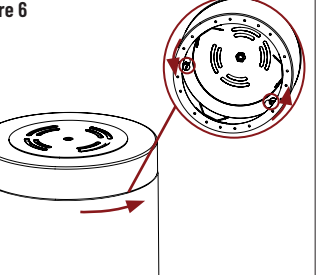

Figure 7
7. Connect ideal connector from LED driver to Onyx reflector. (Figure 7)